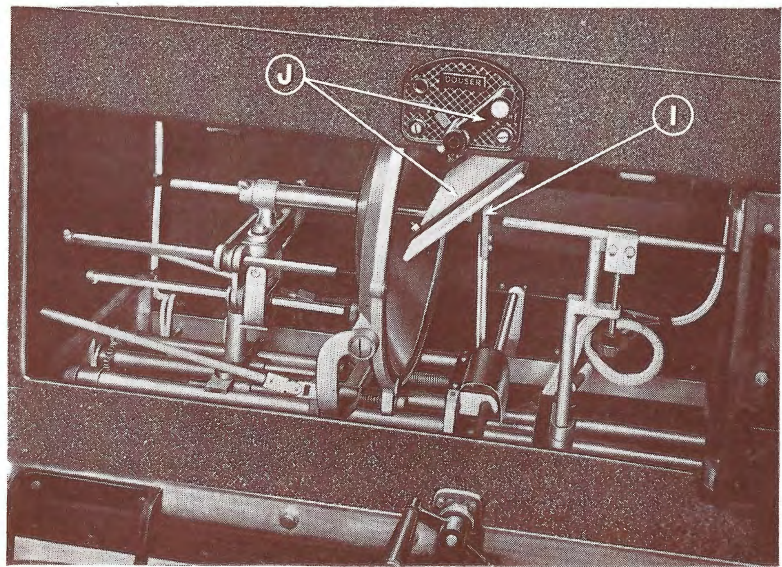

Fig. 2
**I. Carbon Positioner (Fig. 2).**—Comprises moveable arm, with heat resisting insulated end, location of the "in" and "out" positions being by means of a spring. The arm is set at 5 ins. from back of mirror in the "spot" position.
**J. Douser (Fig. 2).**—This comprises a heat resisting shield, operated by lever having spring loaded locating device which secures same in the "Up" or "Down" positions.